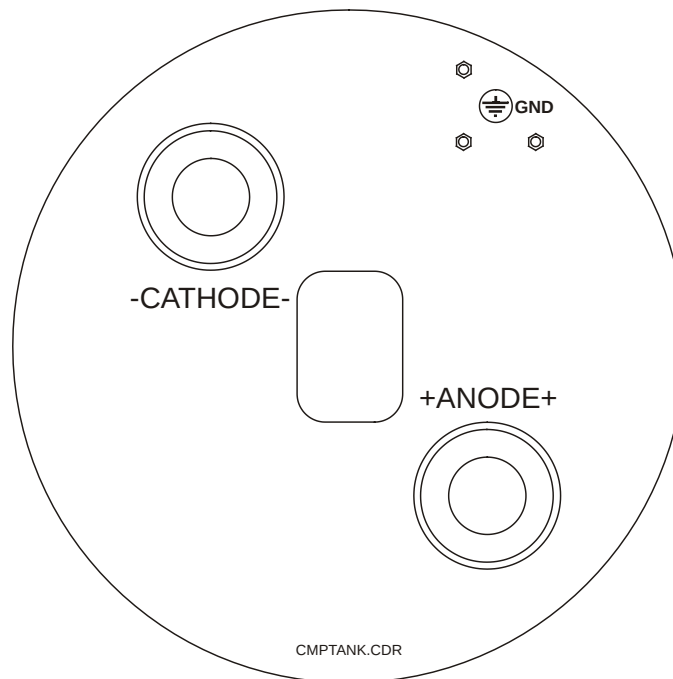

Figure 2-9: HV connector identification
3. Connect the anode and cathode cables to the HV module. Ensure that the cables are plugged into the proper connectors on the HV module. Refer to figure 2-9.
In addition to the X-ray tube manufacturers recommended tube grounding procedure, a separate ground wire (10 AWG, 6mm²) must be connected from the X-ray tube housing to one of the ground studs on the HV module. Refer to figure 2-9 for the location of these ground studs. These ground locations may have other ground wires already connected; ensure that these existing ground wires are not disconnected when making the X-ray tube ground connection.